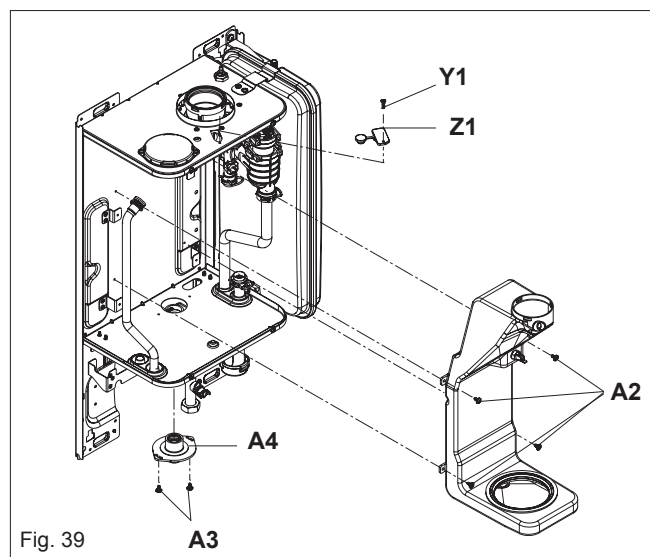

Fig. 39
6.20 FLUE COLLECTOR REMOVAL (fig. 39)
- Insert the flue gas analyser probe into the flue gas test point (see fig. 39).